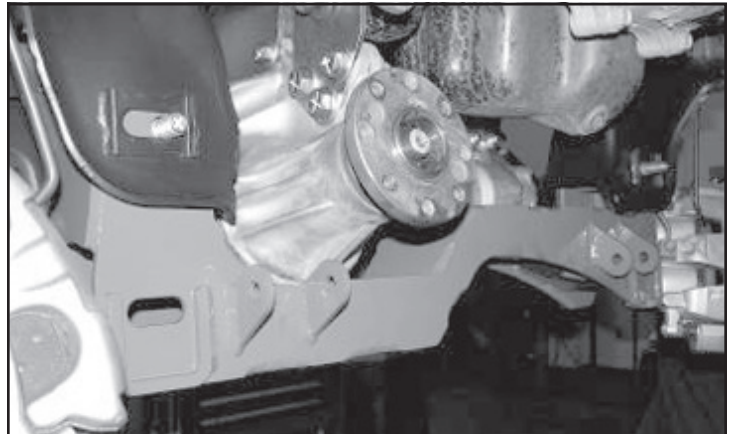

FIGURE 18 - STEP 28
28. Locate FT44089BK rear crossmember and install it into the frame pockets using the $\frac{5}{8}$ " x $5 \frac{1}{2}$ " bolts, nuts, and washers. Leave loose at this time. **SEE FIGURE 18**